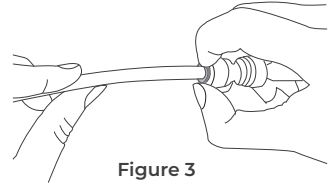

Figure 3
- Use your thumb and index finger to press down the lock sleeve. Use your other hand to pull out the tubing from the fitting (**Figure 3**).